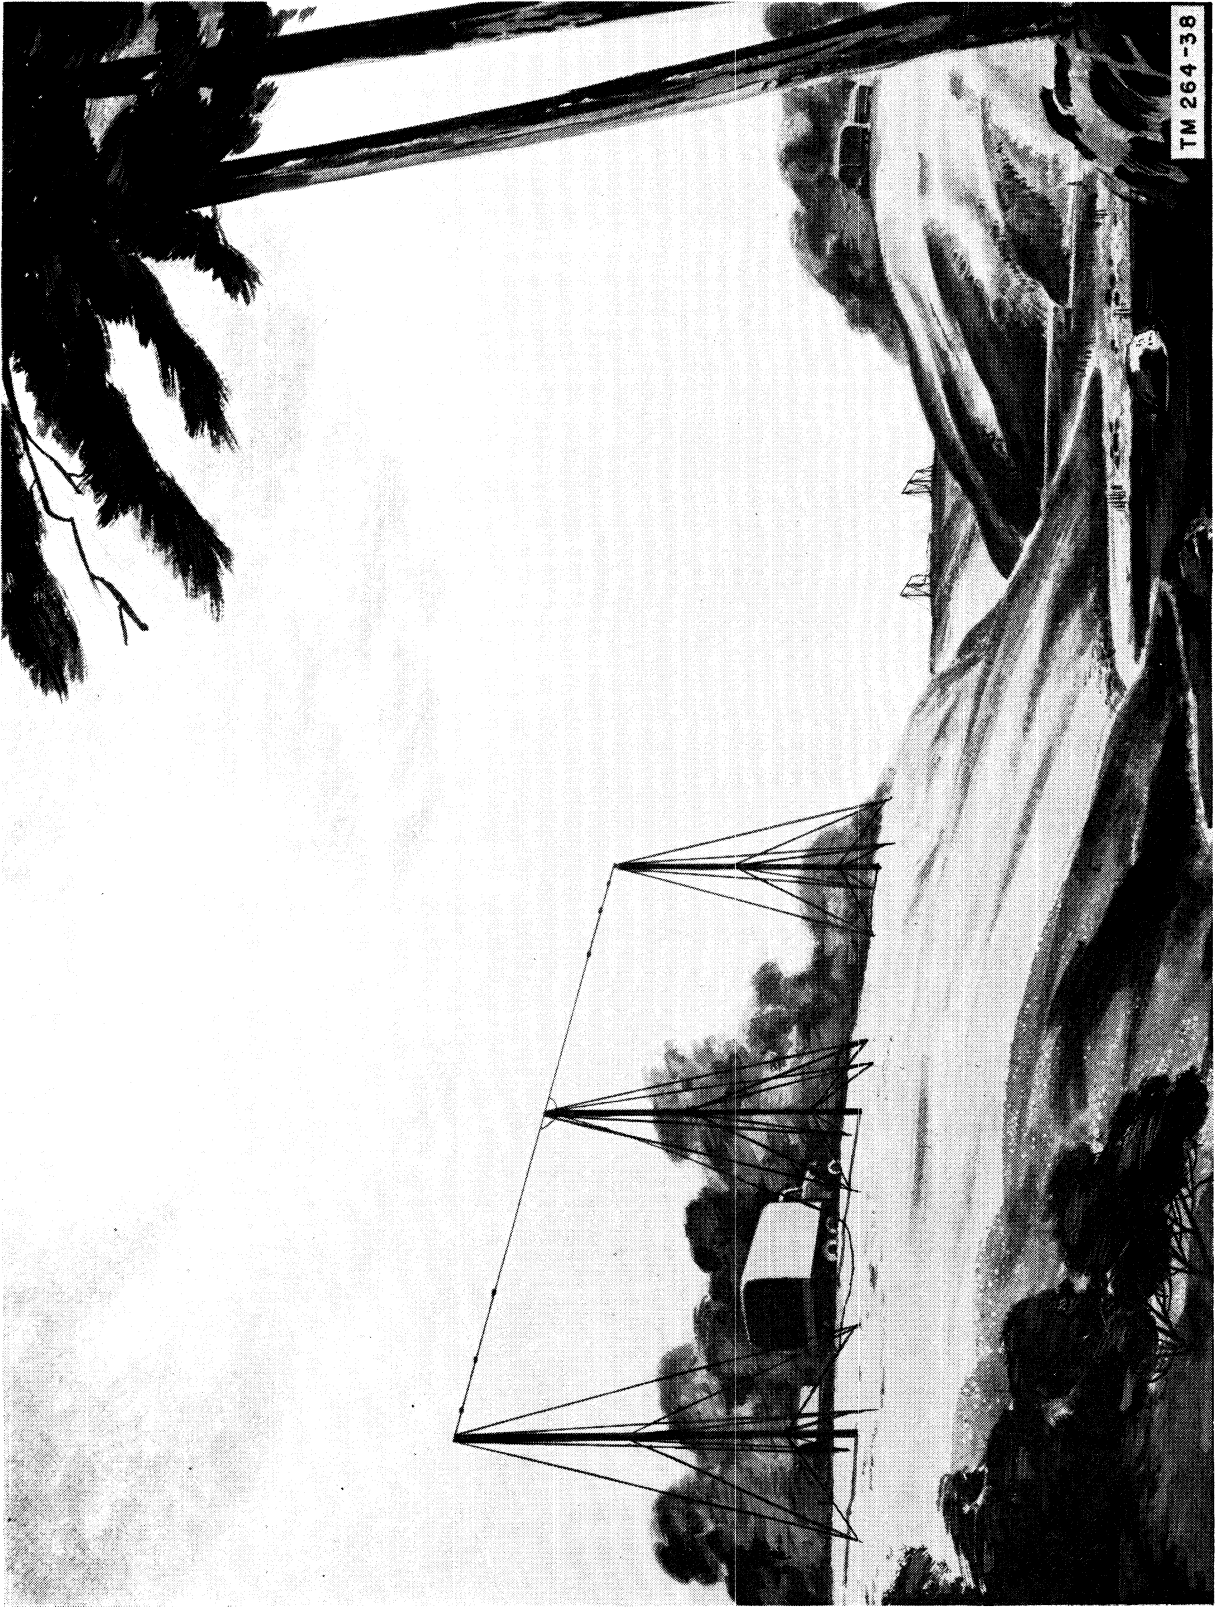

Figure 26. Siting Radio Set AN/GRC-26; a possible antenna location.
a. Choose a flat, well-drained, elevated location (fig. 26) for the installation of Radio Set AN/GRC-26. The tactical situation and the necessity for concealment also must be taken into consideration in selecting an appropriate site. Signals from Radio Set AN/GRC-26 have a greater range if the antenna is high and clear of hills, buildings, cliffs, densely wooded areas, and other obstructions. Depressions, valleys, and other low places are poor locations for radio reception and transmission because the surrounding high terrain absorbs r-f energy. Weak or otherwise undesirable signals may be expected if the set is operated under or close to steel bridges, underpasses, power lines, or power units. Choose, if possible, a location on a hilltop or elevation. Flat ground is desirable. Normally, transmission over water is better than over land. Make sure that drainage is adequate to prevent flooding the interior of the shelter. If the equipment is part of a message center but is not installed within the center, locate the equipment near the message or signal center which it serves. In locating the antenna, avoid obstructions which are 2° or 3° above the horizontal plane of the antenna in the direction of desired transmission. This is approximately 200 to 300 feet at a distance of 1 mile from the antenna.